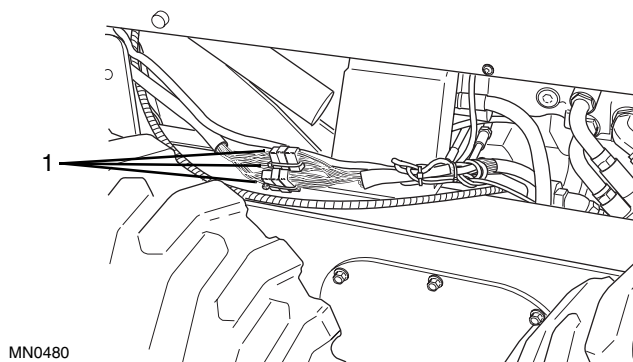

Figure 9-46 Wiring Harness Connectors
41. Connect the Operator's Protective Structure harness and chassis/engine harness electrical connectors (Fig. 9-46, 1), and secure with cable ties.